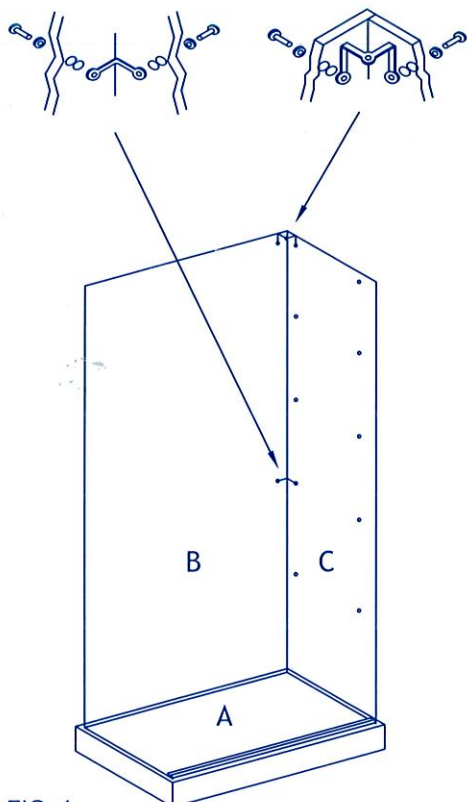

FIG. 1
- FIG. 1 PLACER LE SOCLE (A) AU SOL (LE PLUS PLAT POSSIBLE. INSERER DANS LES RAINURES L'ARRIERE (B) ET LE COTE (C) ET LES BLOQUER AVEC LES ATTACHES A 2 ET A 3 VIS COMME INDIQUE'.
- FIG. 1 PLACE THE BASE (A) ON A LEVEL FLOOR. FIT THE BACKSIDE (B) AND THE LATERAL SIDE (C) INTO THE MILLINGS. JOINT THEM USING THE 2 AND 3 WAYS CORNERS AS SHOWN.
- FIG. 1 STELLEN SIE DER SOCKEL (A) AUF EINEN FLACHFUSSBODEN. STELLEN DIE RUCKWAND (B) UND DIE SEITE (C) IN DEN AUSKEHLUNGEN DER SOCKEL. BEFESTIGEN SIE JETZT MIT DER 2 UND 3 WEGKLAMMERN WIE GEZEICHNET.
- FIG. 1 PONER EL ZOCALO (A) EN UN SUELO PLANO. INSERTAR EL RESPALDO (B) Y EL LATERAL (C) EN LAS CANALADURAS DEL ZOCALO Y LOS ATORNILLARLOS CON LOS LAZOS A 2 Y A 3 TORNILLOS, COMO INDICADO.
- FIG. 1 POSIZIONARE IL BASAMENTO (A) SU DI UN PAVIMENTO IL PIU' PIANEGGIANTE POSSIBILE. INSERIRE LO SCHIENALE (B) E LA SPALLA (C) NELLE APPOSITE FRESATE DELLA BASE, ED UNIRLI CON L'ANGOLARE A 3 VIE E CON L'ANGOLARE 2 VIE COME RAPPRESENTATO.